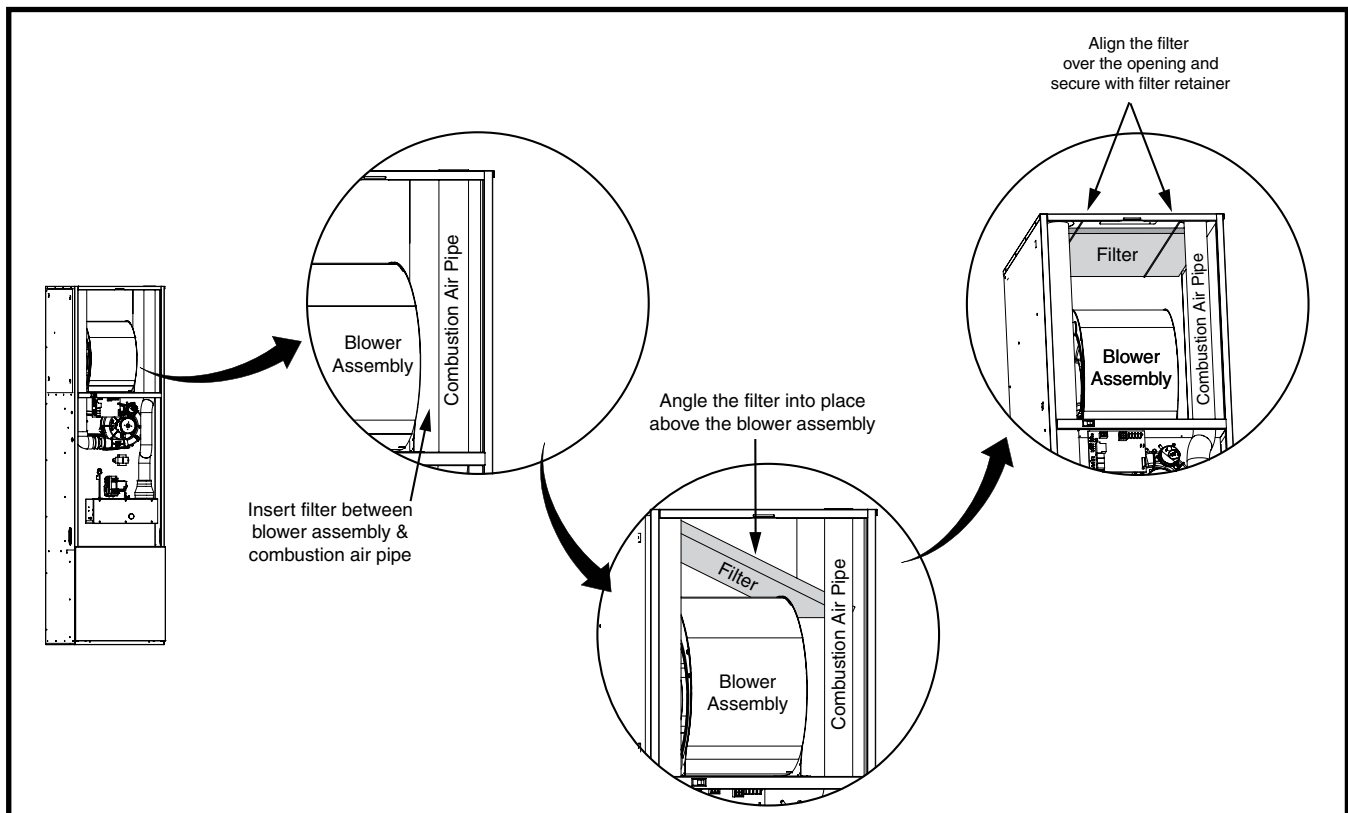

Figure 7. Filter Installation
1. Slide the standard 18"x18"x1" filter into the space between the combustion air pipe and the blower assembly. See Figure 7 \(page 12\). **NOTE:** Make sure the airflow arrows on the filter point towards the blower assembly.
4. Evenly align the filter over the opening in the top of the furnace cabinet and position the other end of filter retainer up over the flange in the furnace's top panel. **NOTE:** To properly secure the filter, make sure the filter retainer is properly positioned in the top panel of the furnace. There should be no visible air gaps. The retainer may slide left or right slightly, but must not have any movement between the front and rear. See Figure 7.